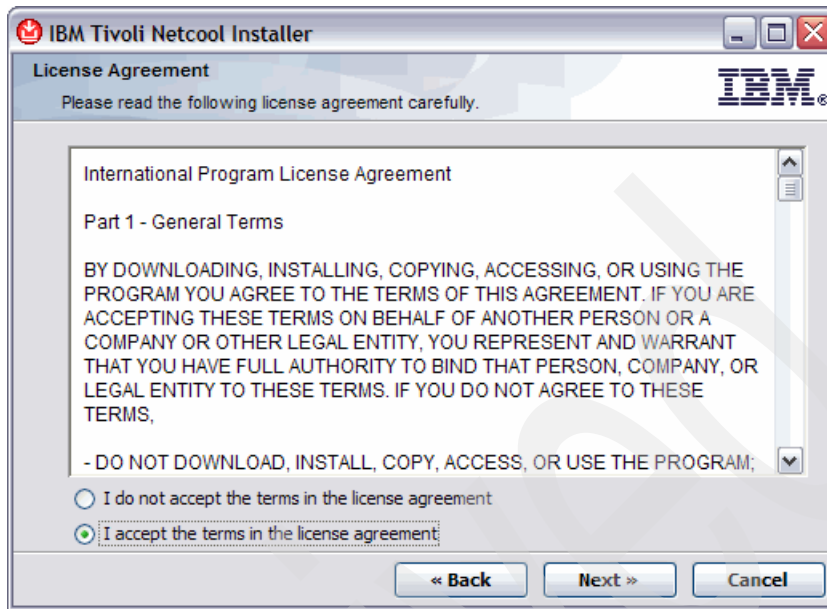

Figure 4-2 IBM Tivoli Netcool/OMNibus installation License Agreement
2. Accept the license agreement shown in Figure 4-2 on page 87. Click **Next**.